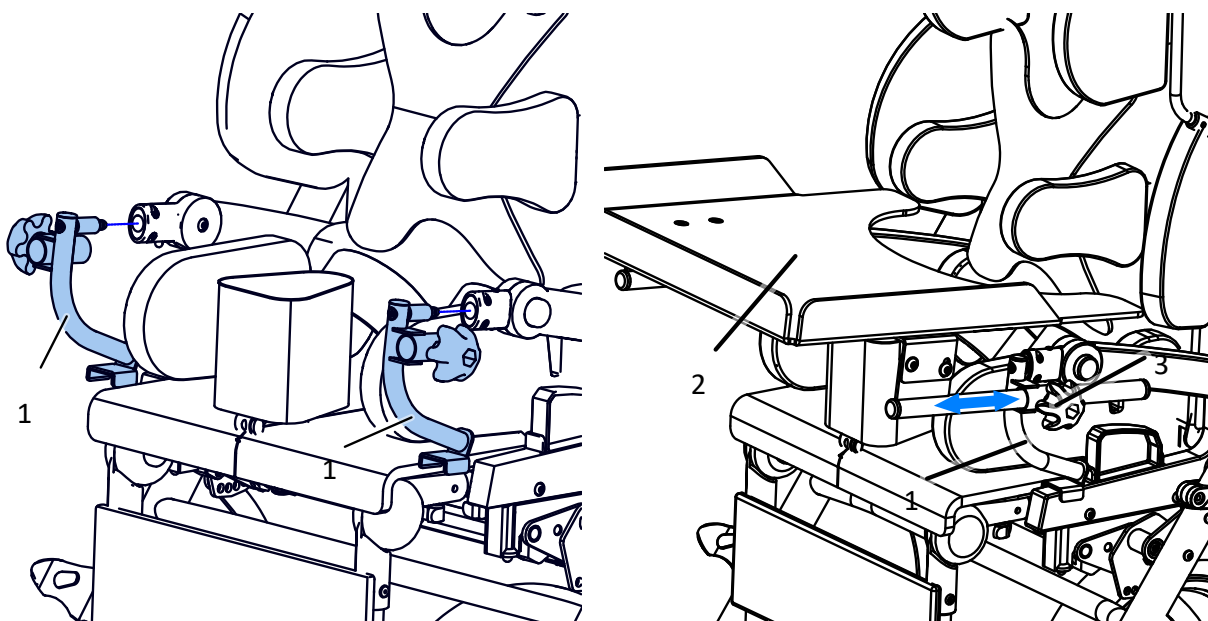

Fig. 32
To assembly the table tray (2), the adapters has to be mounted first (1), into place for safety barrier then the table should be shovel into the adapter's pipes. To block the table in order to prevent moving, tighten it with the knob (3) Fig. 32.